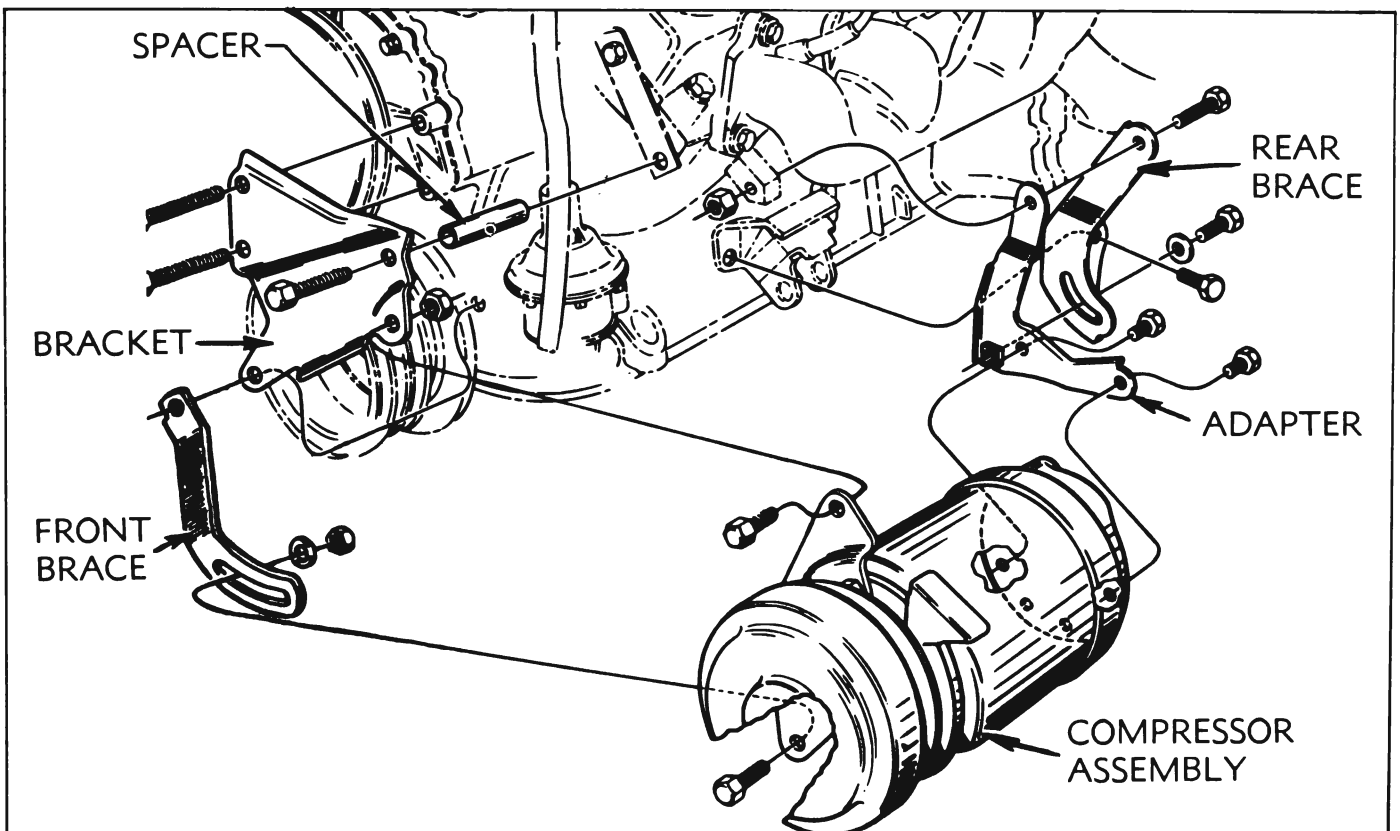

Figure 11-25—Compressor Installation
6. Remove two bolts and nuts that attach front of compressor to front brace and front bracket. See Figures 11-25 and 11-26.